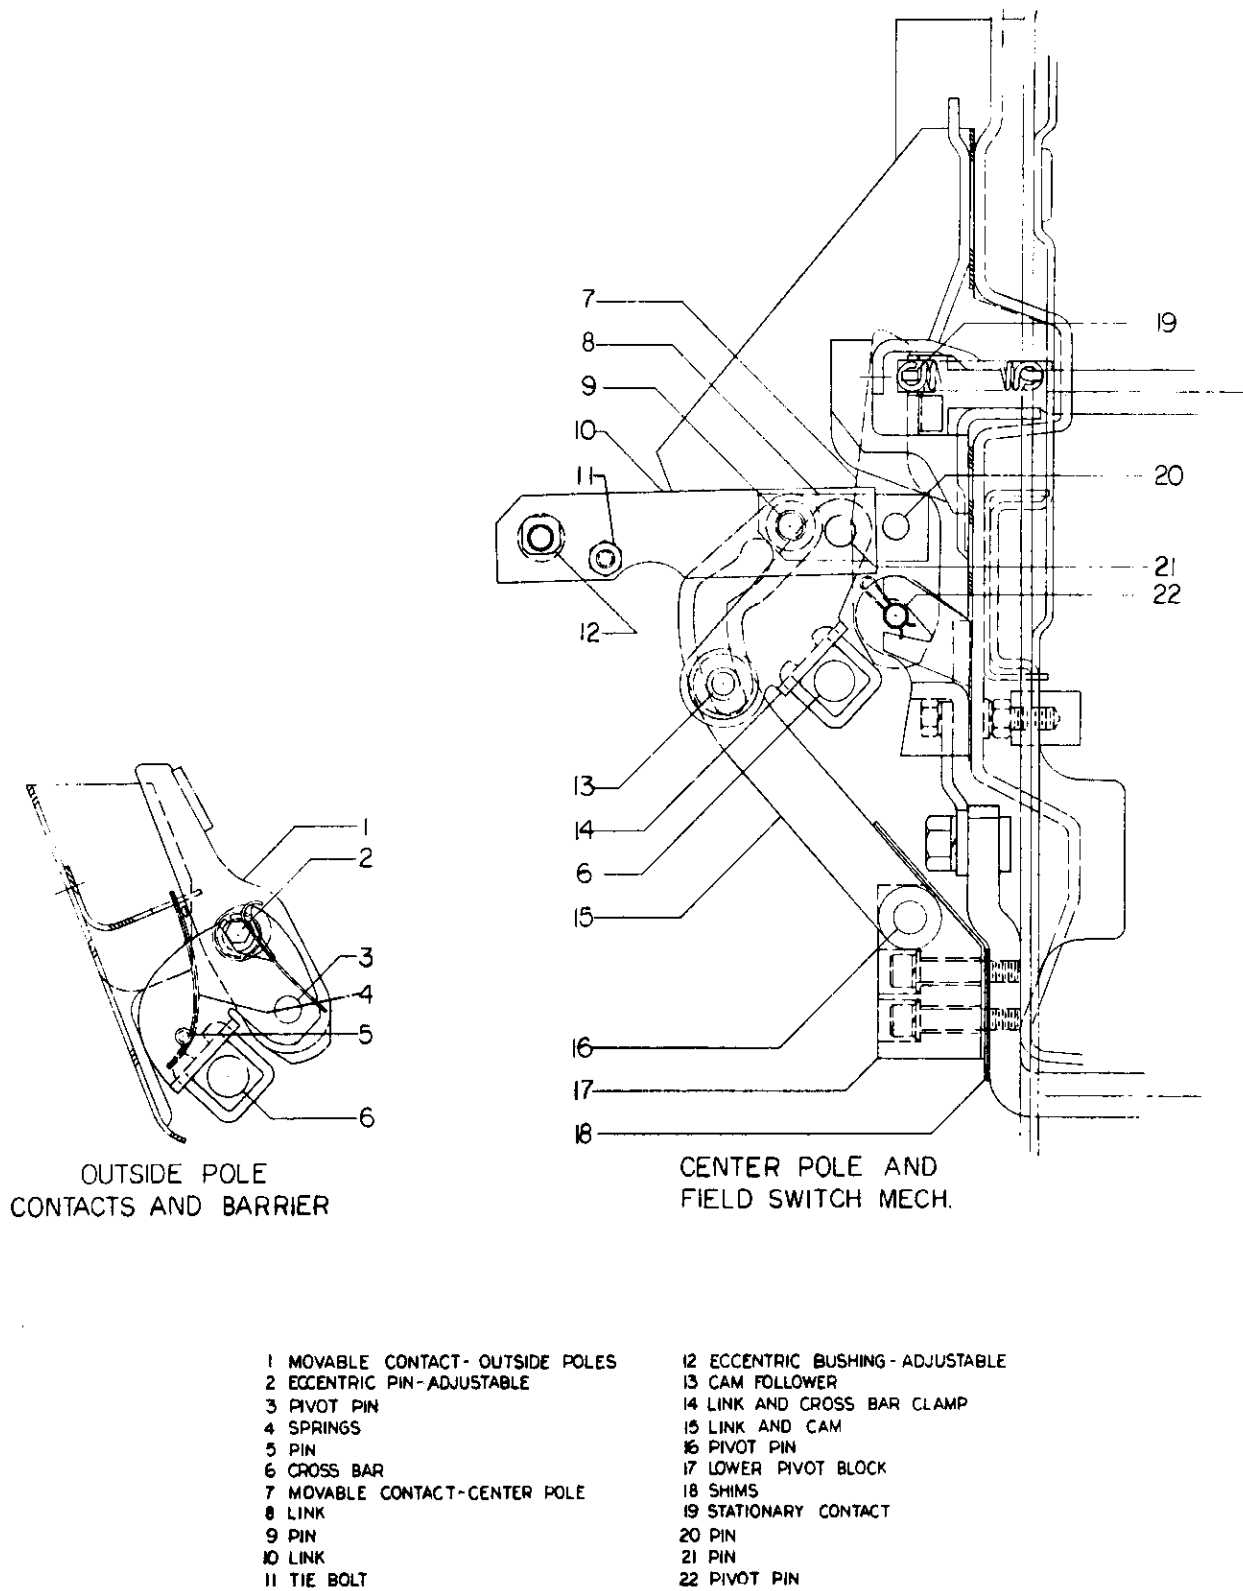

Figure 2. (121C2873) Field Switch Mechanism and Contact Assemblies.
AKF-2 FIELD DISCHARGE MECHANISM FIGURE 2
CONTACT OVERLAP (See Fig. 2)
MOVABLE CONTACT SPRINGS (4) (See Fig. 2)
1. With contact (1) in the open position, take a screwdriver and push upward on the bottom of the "U" shaped springs (4) freeing them from pin (5) and contacts (1).
2. Remove the one end of pin (5) from its mounting in the contact carrier and slide new springs (4) into proper position.
MOVABLE CONTACTS (1,7) (See Fig. 2).
3. Remove movable contact springs (4) (see above).
STATIONARY CONTACTS (19) (See Fig. 2).